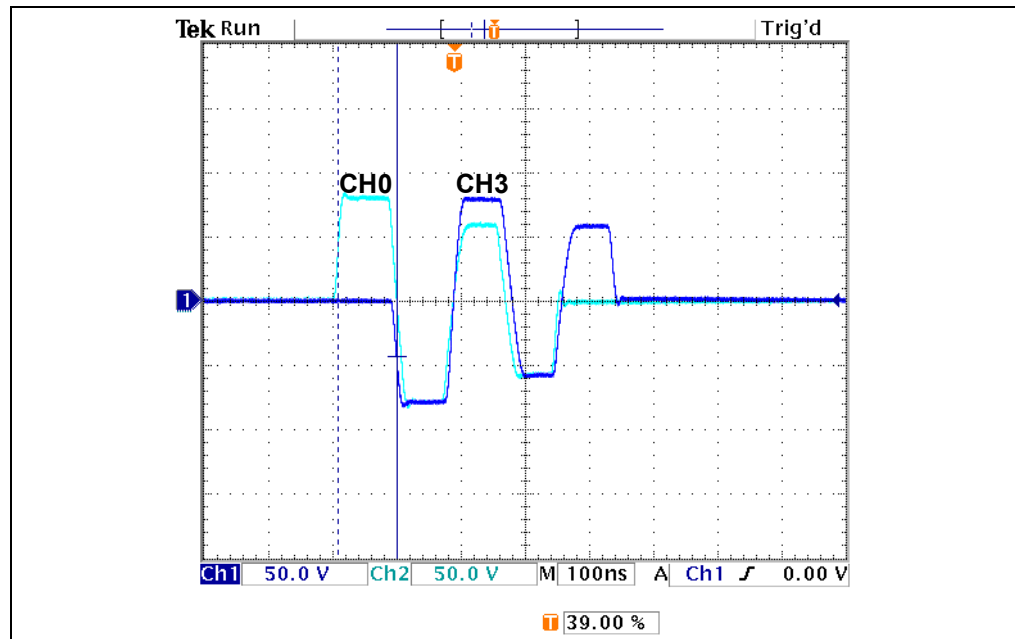

FIGURE 3-14: Pulsed-Echo Output.
- 12. An oscilloscope screenshot of the waveform generated is shown in Figure 3-14.